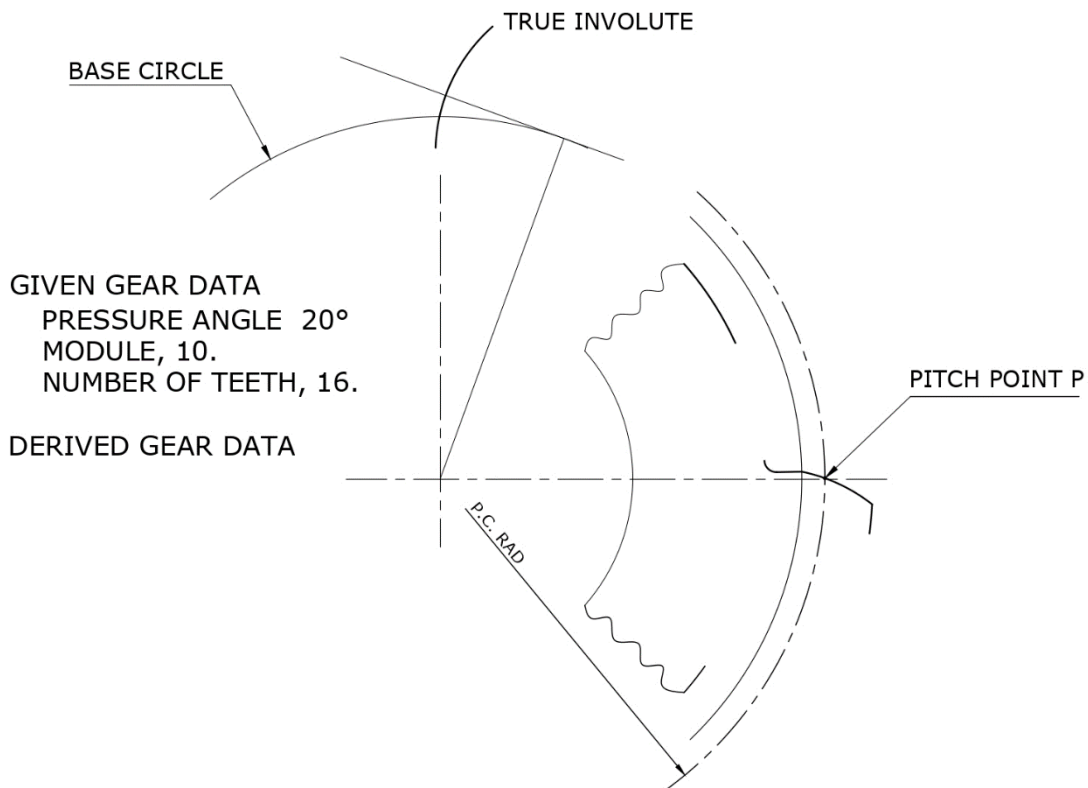

Figure 3b
a) Write down the given gear data and substituting the given gear data, calculate the dimensions required to draw, twice full size, the spur gear teeth. (3)
b) Copy, the conventional representation of the gear shown in Figure 3b and draw the pressure angle and the base circle passing through the pitch point P. Set up the construction of the involute to one side of one flank face profile of the gear, showing the construction of the flank face profile of the true involute form. (5)